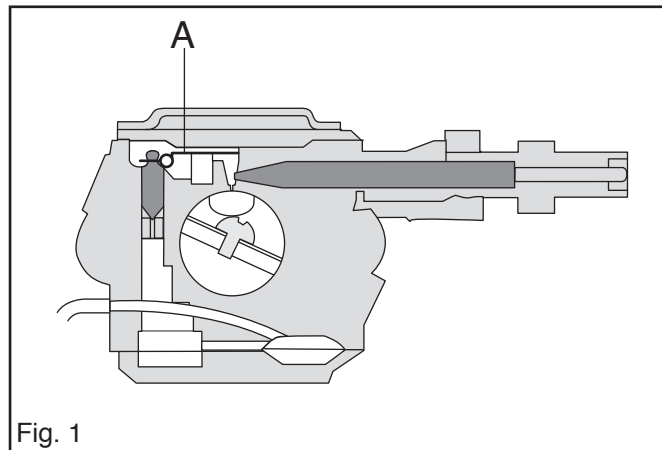

Fig. 1
- The metering unit, A in fig. 1.